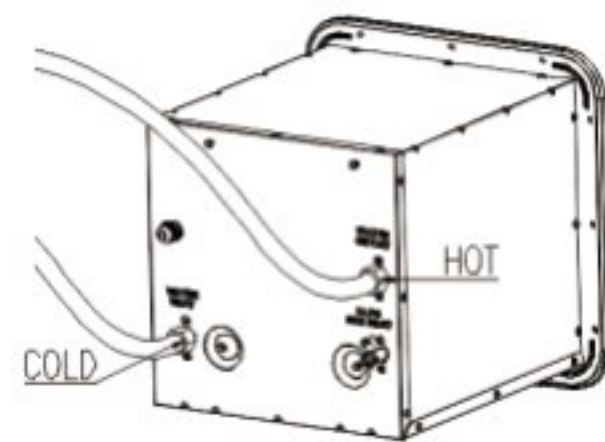

Figure 18
- ii. If the cold water and hot water are connected in reverse, the water heater will not start and cannot produce hot water, which may damage the equipment -- see Figure 18.